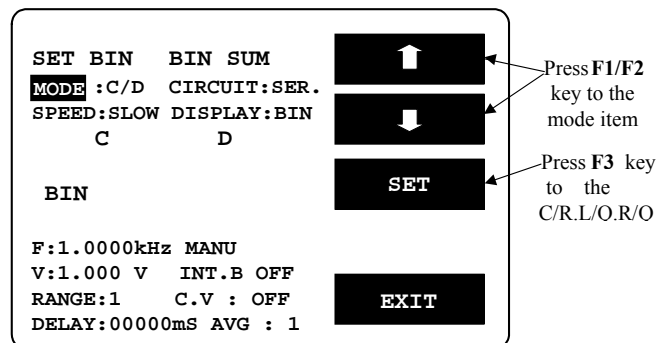

Figure 8-2
- Press F3 key to select C/D or C/R or L/Q or R/Q shown as Figure 8-2 below.